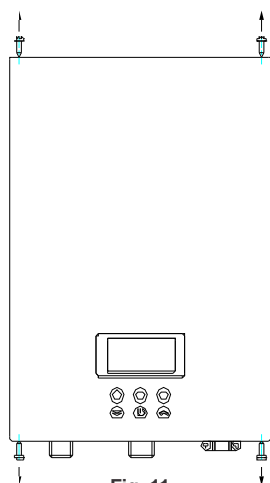
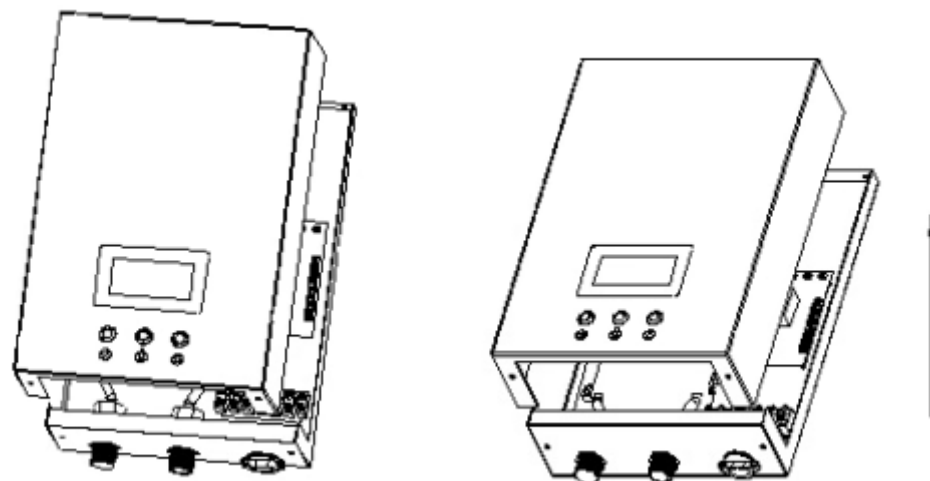

Fig. 11
Fig. 12
Remove (4) screws and washers (Fig 11) from the unit to free the front cover. Carefully lift the front cover off the unit a few inches. Disengage the plug connecting the front cover LCD panel to the body of the unit (Fig 12). Remove the cover completely.